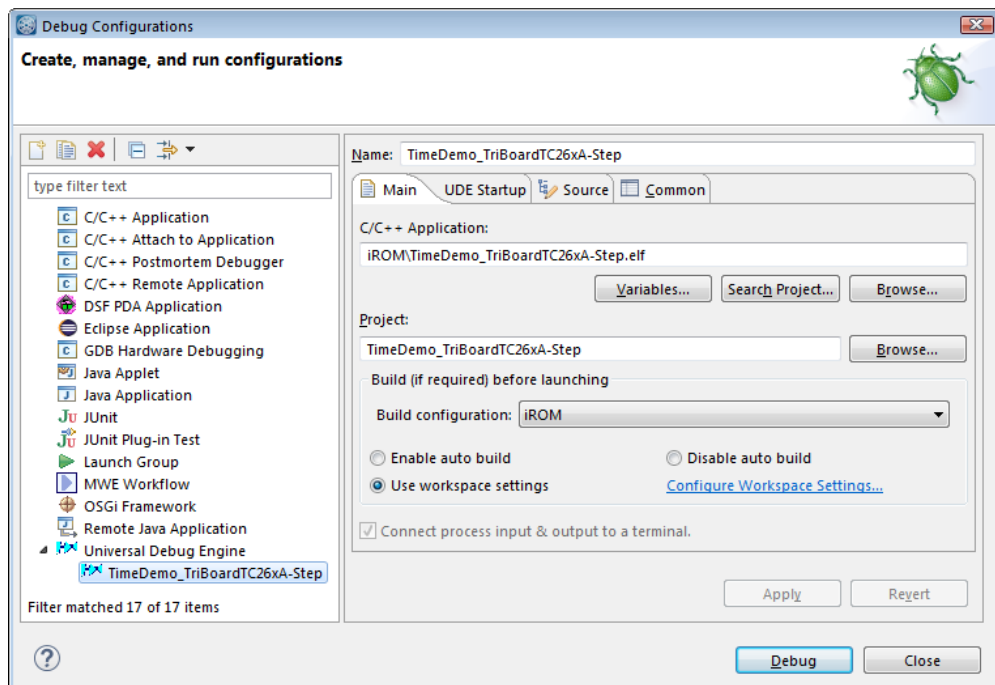

Figure 32 Create new debug launch configuration for Universal Debug Engine
3. Press the **New launch configuration** button to create a new debug launch configuration for Universal Debug Engine (Figure 32).